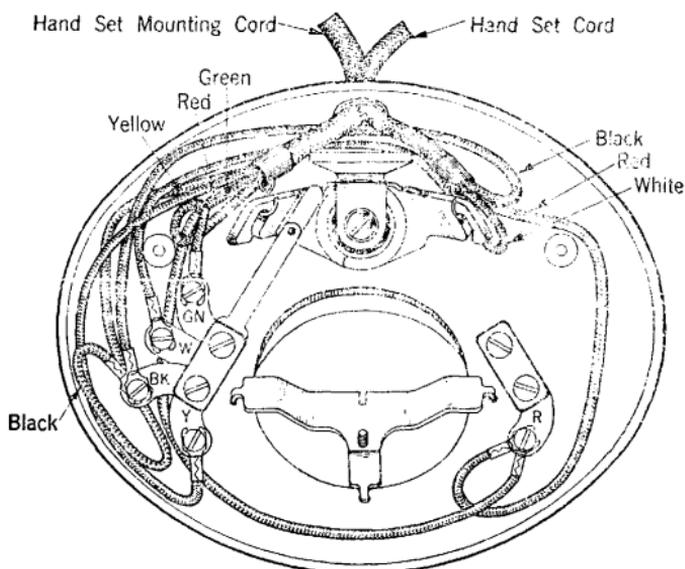
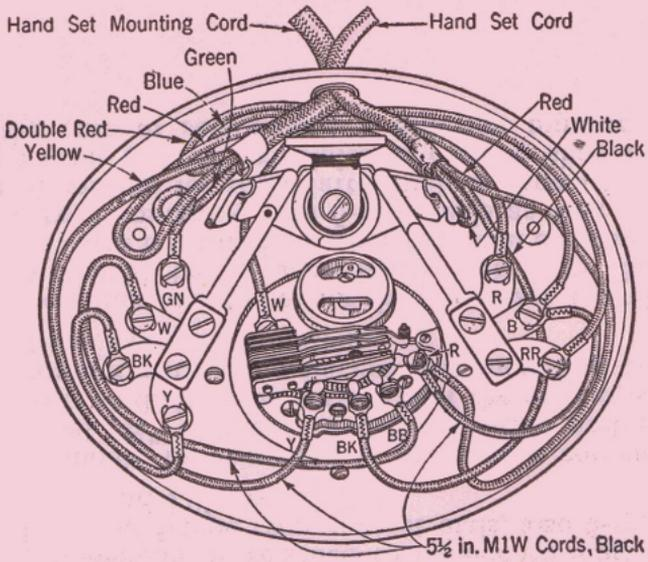

Fig. 1—D1 Type Hand Set Mounting.
Fig. 25—D2 Type Hand Set Mounting
1.01 This addendum supplements Section C32.164, Issue 1. It was previously issued to add cording for the 103A, B, C, 205G, H, J, 206M, N and P hand telephone sets, to include precautionary information regarding the contact of cord tips with a dial mounting screw and to change the designation of Figs. 1, 2, 3, and 4 of Addendum C32.164, Issue 1, to Figs. 25, 26, 27 and 28, respectively.